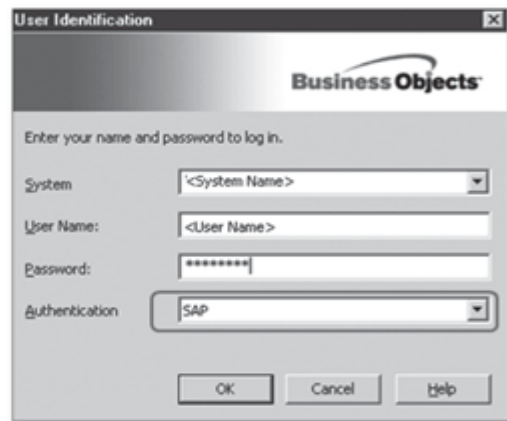

Figure 13.3 Log On to Universe Designer
1. Open the Universe Designer from the Start menu, and log on by entering the requested details. In the Authentication field, select SAP from the dropdown (Figure 13.3).